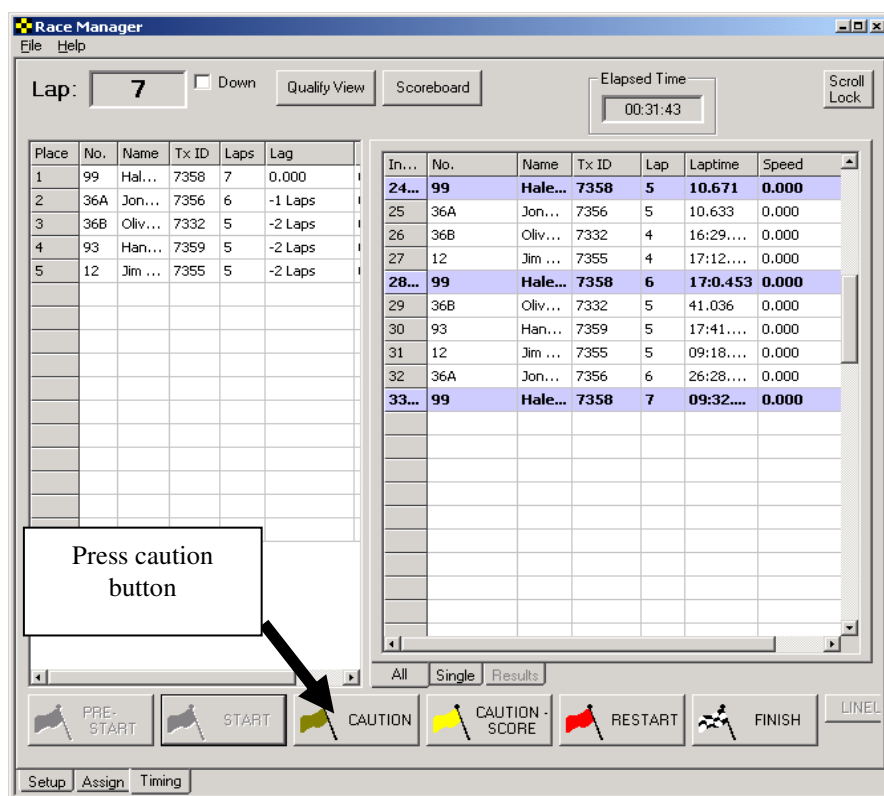

Fig 3.1-6 – Only leader has crossed
3. In the case where it is decided that the caution will not be scored and the leader has crossed before the caution is thrown, hit the non-scoring **Caution** button. Fig 3.1-6.